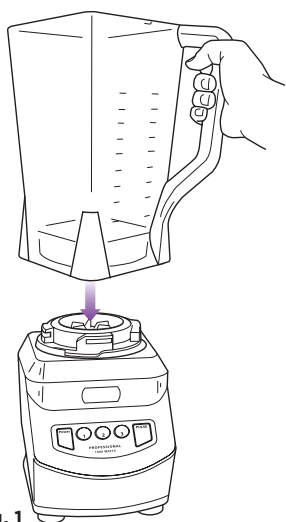

Fig. 1
- 2 Lower the pitcher onto the motor base. (Fig. 1)